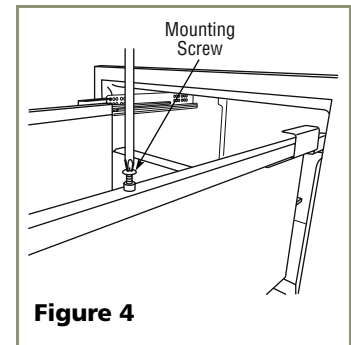

Figure 4
3. Remove the mounting screws. See **Figure 4**.
2. Re-install the rails' mounting screws. See **Figure 4** on **Page 3**.